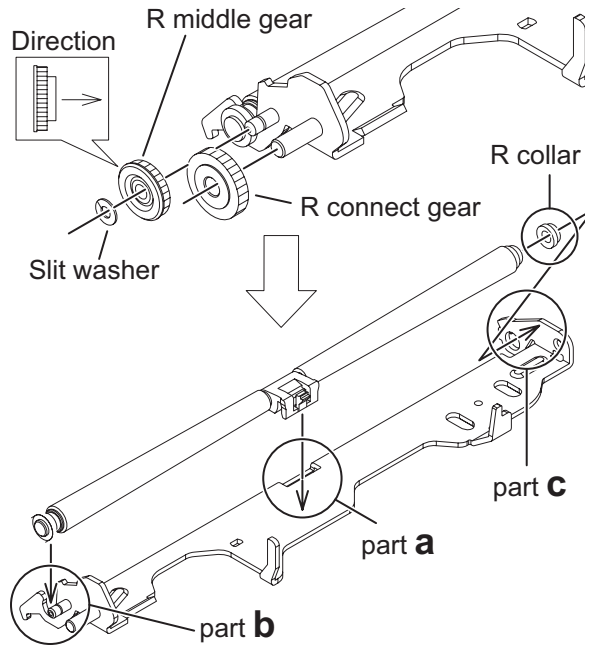

Fig.19
3.2.10 Removing the Roller assembly (See Fig.19)